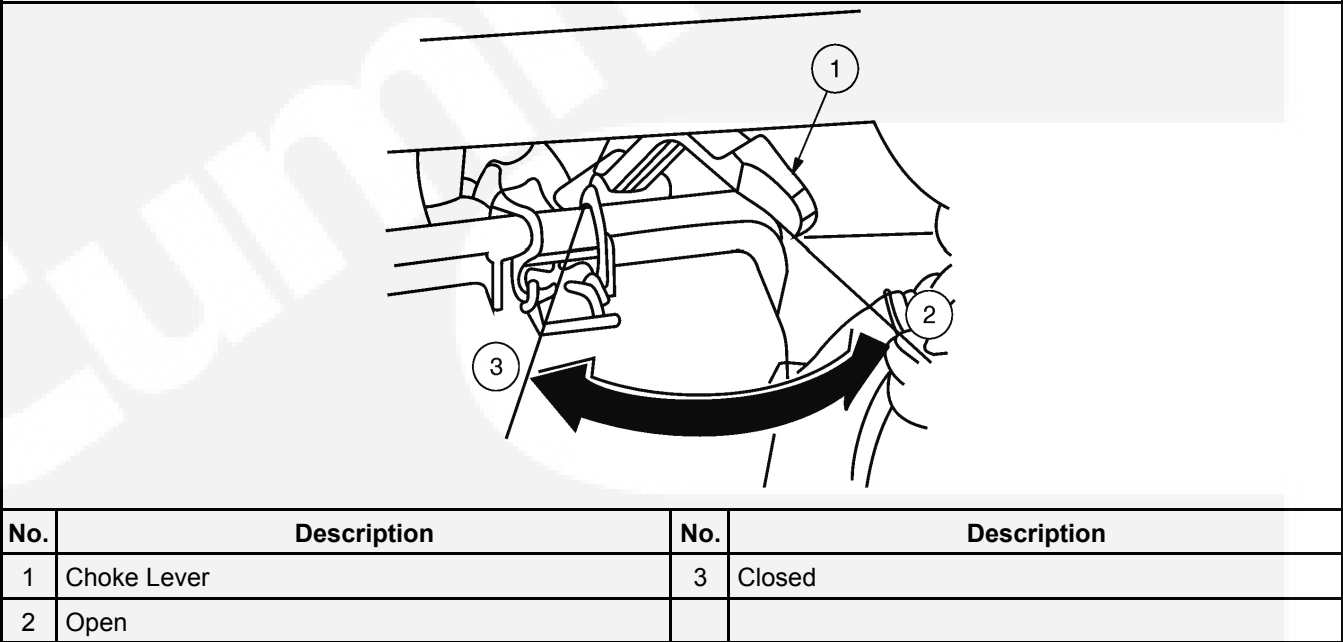

FIGURE 7. CHOKE ROD
2. Pull the choke rod out to close the choke if the engine is cold (see Figure 7).